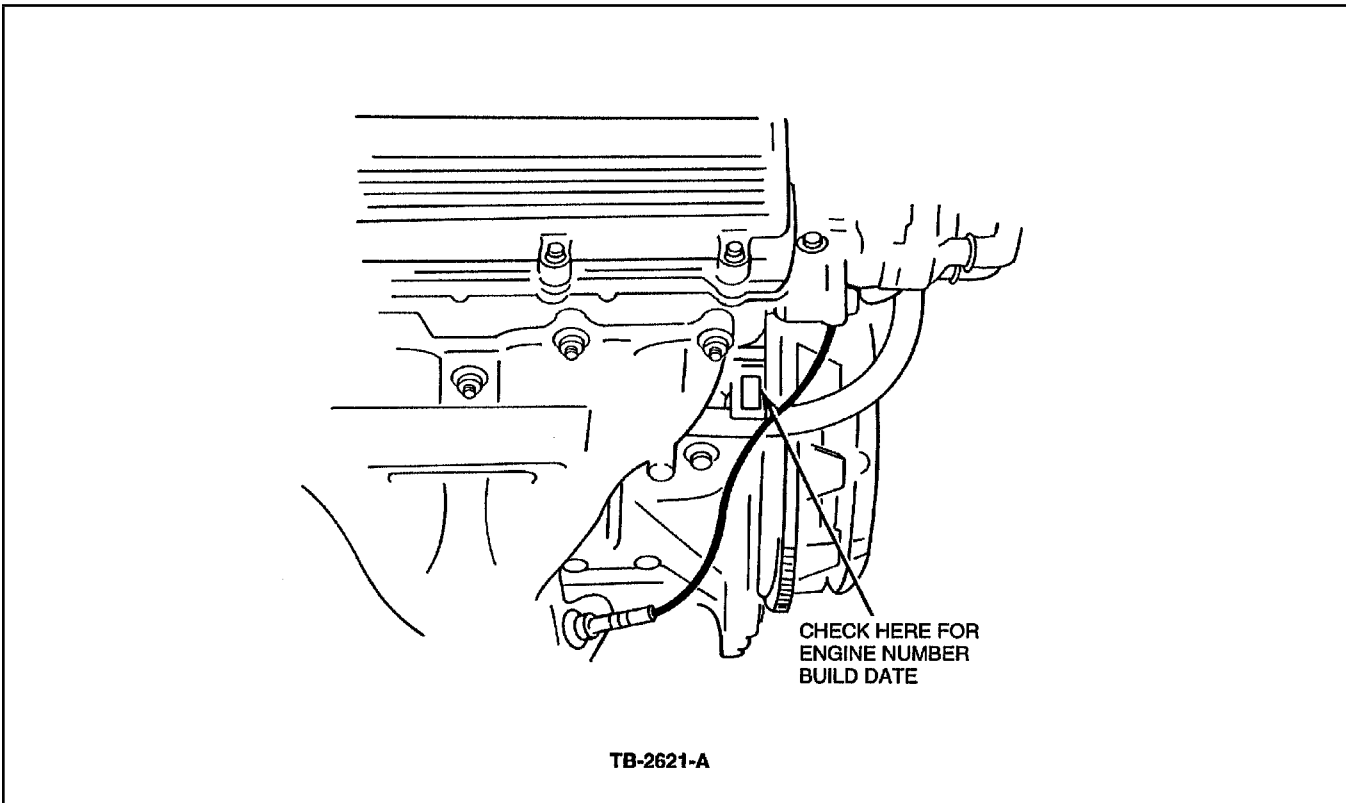

Figure 1 - Article 93-24-14
**THE FOLLOWING TWO SYMPTOMS ARE NORMAL AND REQUIRE NO CORRECTIVE ACTION: (1) “TICKING” NOISE FOR UP TO 3 SECONDS AFTER INITIAL START UP. (2) NOISE JUST AFTER OIL AND FILTER CHANGE. AIR IS PURGED OUT THROUGH NORMAL DRIVING.**
1. Check the engine serial number for Escort/Tracer or the vehicle build date for Capri to verify that the vehicle may have the oil contamination problem. Capri build dates are stamped on the left strut tower. Refer to Figure 1 for Escort/Tracer Engine I.D. location.